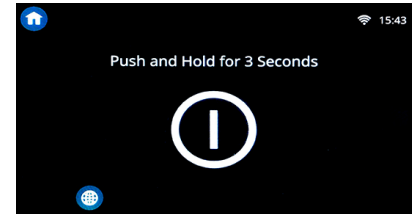

Figure 4
1. Press the  button to turn the fryer off (see Figure 4) and put the frypot covers in place.
1. Press the  button to turn the fryer off (see Figure 4).